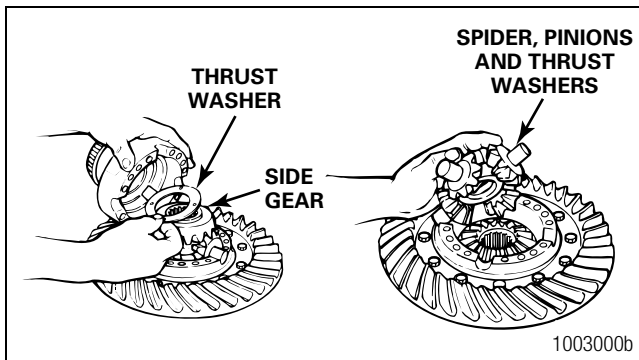

Figure 3.17
4. Remove the differential spider or cross, four pinion gears, two side gears and six thrust washers from inside the case halves. Figure 3.17.